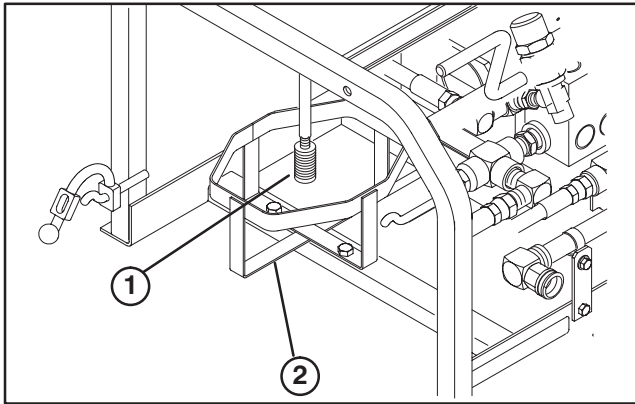

Figure 7
3. If using a soap solution, insert line strainer into solution container and insert container into holder on pressure washer (Fig. 7).